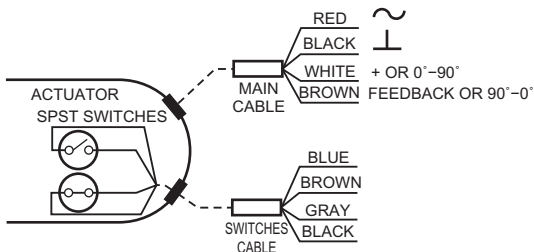

Fig. 11. Cable installation details.
Some models include Auxiliary switches. For wiring details see Fig. 11.
2. Connect power to power and common wire. (See Fig. 11 and Table 3.)
4. Apply control signal for actuator full open or full closed position. (See Fig. 11 and Table 3.)
- a. (0)2-10 VDC: apply 10 VDC signal to control wire (WHITE).
- b. 10-(0)2 VDC: apply (0)2 VDC signal to control wire (WHITE).
- c. (0)4-20 mA: apply 20 mA signal to control wire (WHITE).
- d. 20-(0)4mA: apply (0)4 mA signal to control wire (WHITE).
6. Apply control signal for actuator 0% position. (See Fig. 11 and Table 3.)
- a. (0)2-10 VDC: apply (0)2 VDC signal to control wire (WHITE).
- c. (0)4-20 mA: apply (0)4 mA signal to control wire (WHITE).